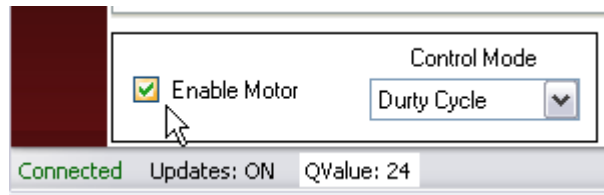

Figure 10. Enable Motor
1. On the Main tab, click "Enable Motor" (see Figure 10).